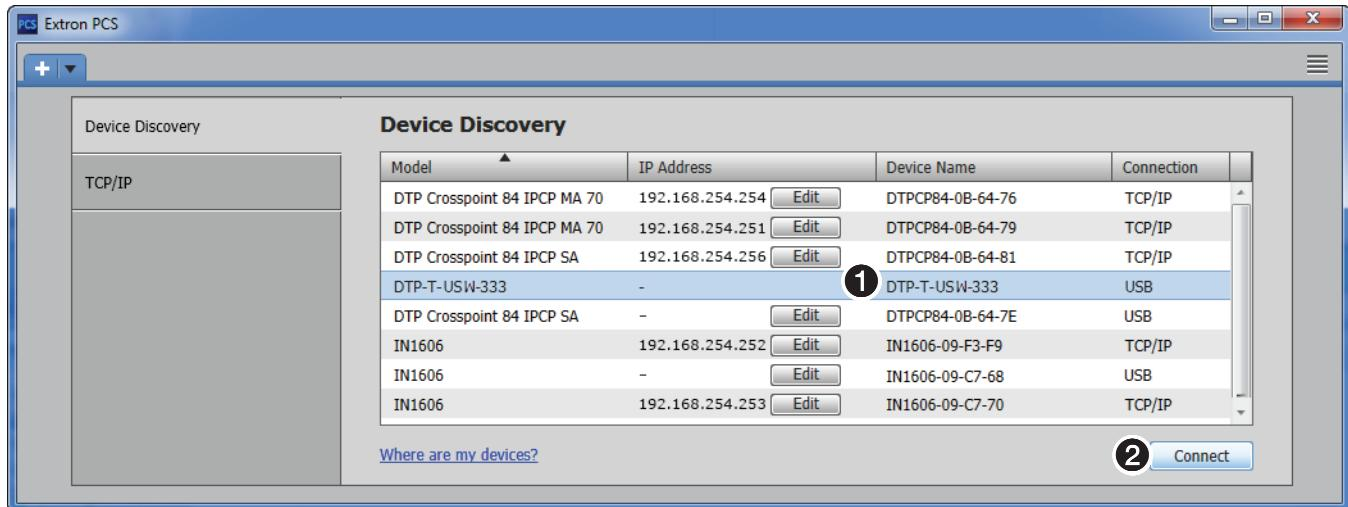
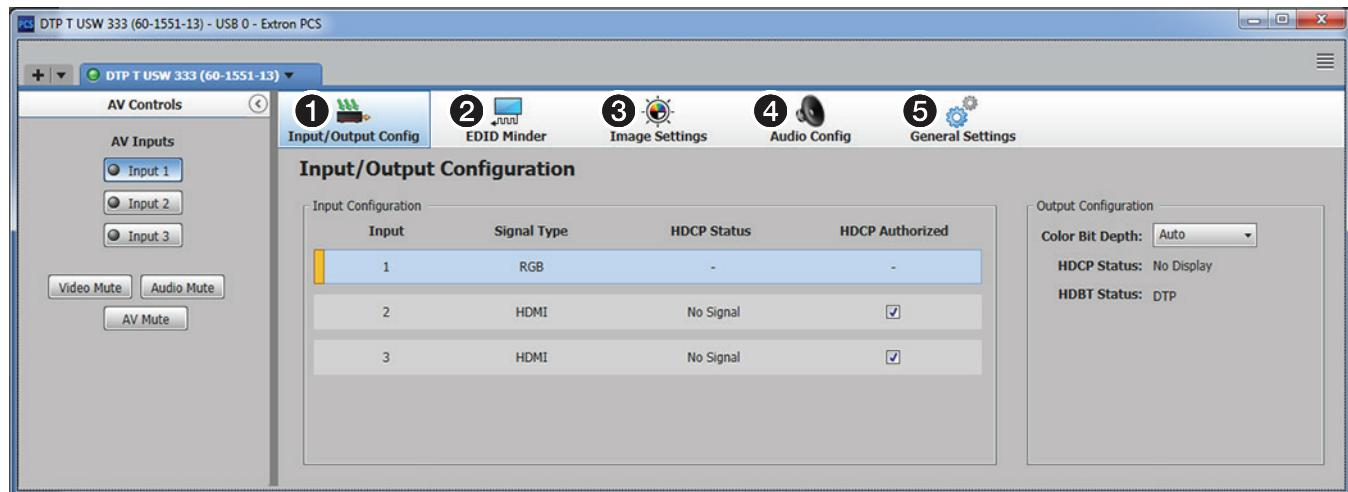

Figure 14. Device Discovery Screen
Figure 15. Product Configuration Software
The Product Configuration Software opens to the Device Discovery screen (see figure 14).
2. Select your DTP T USW 333 unit (see figure 14, ①) and click **Connect**, (②). The Product Configuration Software opens to the Input/Output Configuration page (see figure 15).